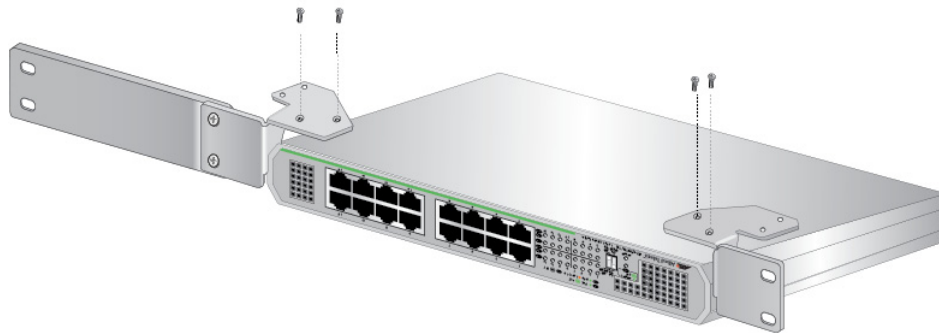

Figure 25. Attaching the Brackets to the Switch
5. Attached the brackets to the switch with the M3x6mm screws using a Phillips-head screwdriver. See Figure 25.